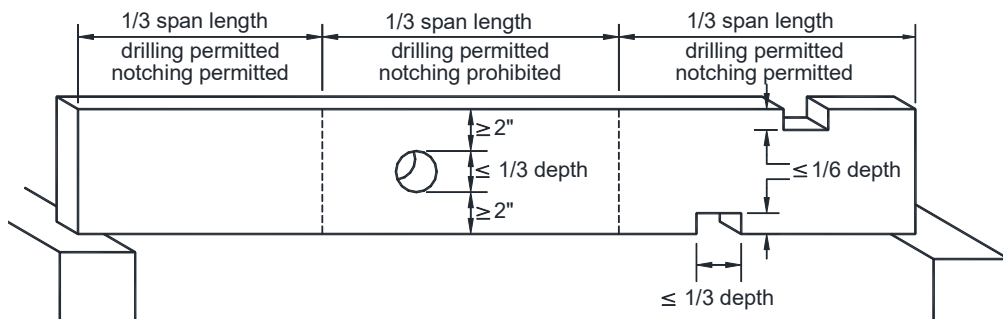

FIGURE 8: DRILLING AND NOTCHING JOISTS
- Drilling and notching 2x lumber shall be in conformance with FIGURE 8.—Cantilevered (overhanging) joists cannot be notched.